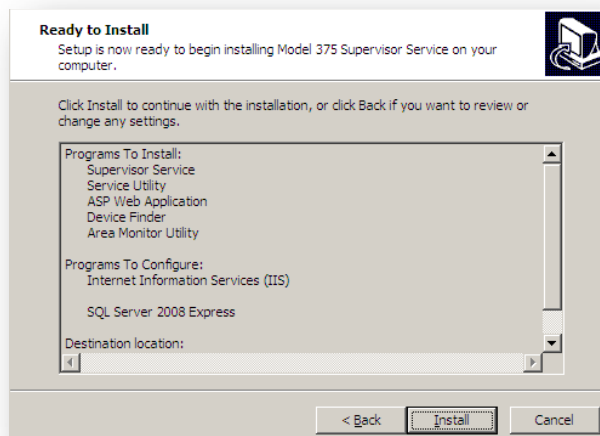

Figure 16 – Model 375 Web Page and Supervisor Service Ready to Install
8. Verify that the selected options are correct and click “Next” to begin installation. See Figure 16.